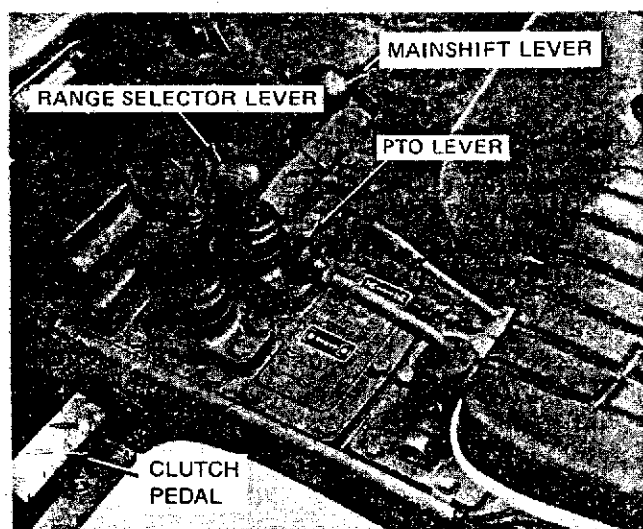

Figure 16 — Transmission Controls and Shift Pattern
The transmission operates through the use of a clutch pedal, a main shift lever, and a range selector lever. Figure 16 illustrates the pedal and levers involved. Ground speeds for the various gear ratios can be found on page 41. Figure 17 shows the combinations of main shift lever and range selector lever positions to obtain the 12 forward and four reverse speeds.
The transmission PTO is controlled through a lever shown in Figure 16. The transmission PTO can be engaged, operated, and disengaged as described under "POWER TAKE-OFF OPERATION."
- Depress the clutch pedal completely and move the transmission gearshift lever to the neutral (N) position.
- Disengage the PTO with the PTO control lever, Figure 16.
3. With the transmission in neutral, depress the clutch pedal completely, then engage the PTO by moving the PTO control lever, Figure 16, up or rearward.